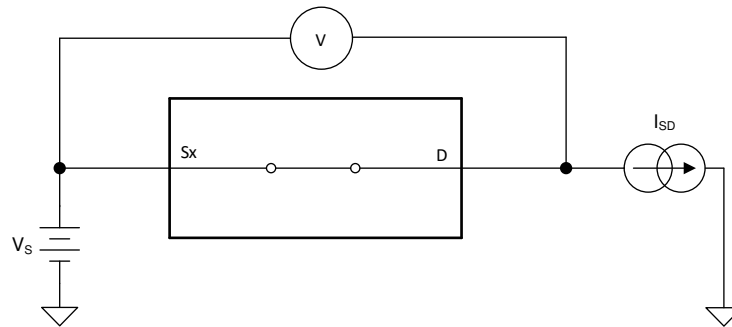

图 8-1. On-Resistance Measurement Setup
The on-resistance of a device is the ohmic resistance between the source (Sx) and drain (D) pins of the device. The on-resistance varies with input voltage and supply voltage. The symbol R_{ON} is used to denote on-resistance. The measurement setup used to measure R_{ON} is shown below. Voltage (V) and current (I_{SD}) are measured using this setup, and R_{ON} is computed as shown in 图 8-1 with $R_{ON} = V / I_{SD}$: